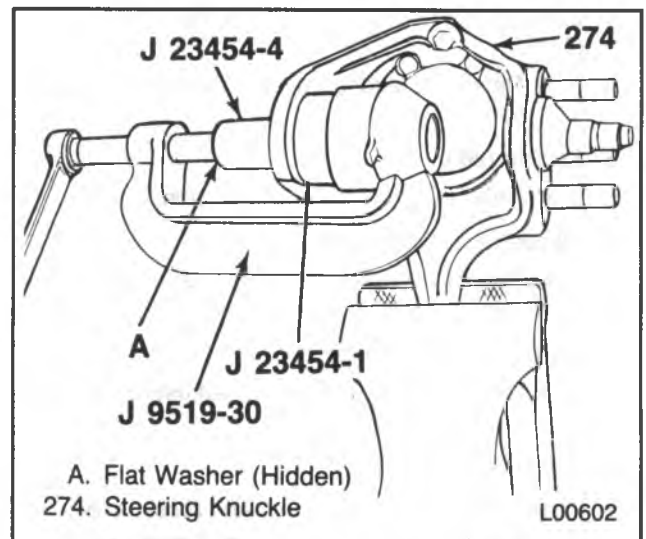
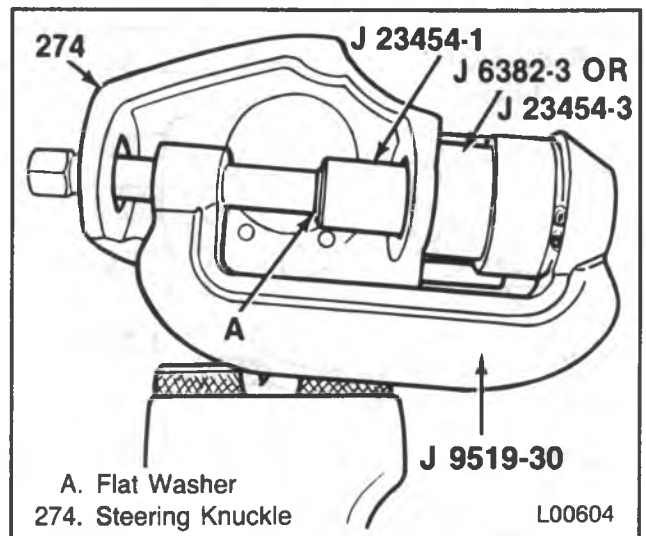

Figure 68 — Removing the Lower Ball Joint
Figure 69 — Removing the Upper Ball Joint
4. Steering knuckle (274) and steering arm (290).
- Remove the steering arm (290) only if removing the left axle yoke ball joints.
- Place the steering knuckle in a vise (figure 68).
5. Snap ring from the lower ball joint (293).
- Use J 9519-30, J 23454-1, J 23454-4 or equivalent (figure 68). Tighten until the ball joint breaks free of the steering knuckle.
6. Lower ball joint (293); must be removed before any service can be done to the upper ball joint (294).
7. Upper ball joint (294).
- Use J 9519-30, J 23454-3 (or J 6382-3) and J 23454-4 (figure 69). Tighten until the ball joint breaks free of the steering knuckle.